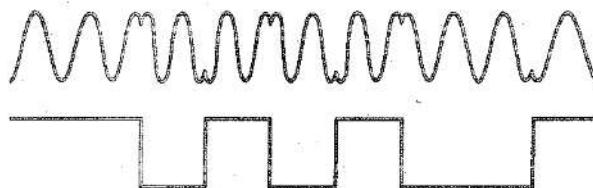

FIGURE 14-2. Waveform of a signal that a simple PSK modem will send out for the binary data 011010100. (Answer to question 14-13a.)
5. After the terminal power is turned on and the terminal runs any self-checks, it asserts the DTR signal to tell the modem it is ready. When it is powered up and ready to transmit or receive data, the modem asserts the DTR signal to the terminal. When the terminal has a character to send, it asserts an RTS signal to the modem. The modem then asserts its CD to the terminal to indicate that it has made contact with the computer. When the modem is ready to transmit data, it asserts the CTS signal back to the terminal. The terminal then sends serial data characters to the modem. When the terminal has sent all the characters it needs to, it makes RTS high, which causes the modem to unassert its CTS signal and stop transmitting. See also Figure 14-2 on page 489 of the text.
13. a. Figure 14-2 shows the waveform of a signal that a simple PSK modem will send out to represent the binary data 011010100.